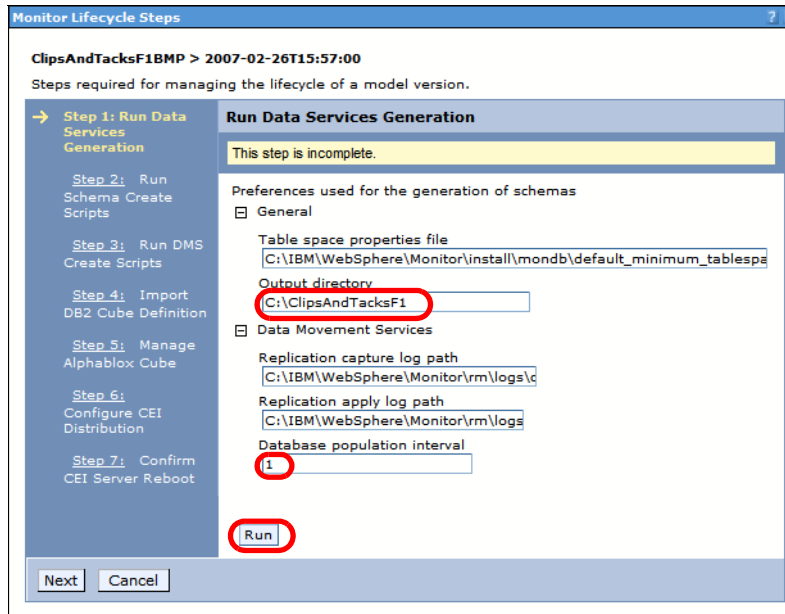

Figure 14-7 Monitor life cycle: Step 1
- ▶ Click *Run* (Figure 14-7).